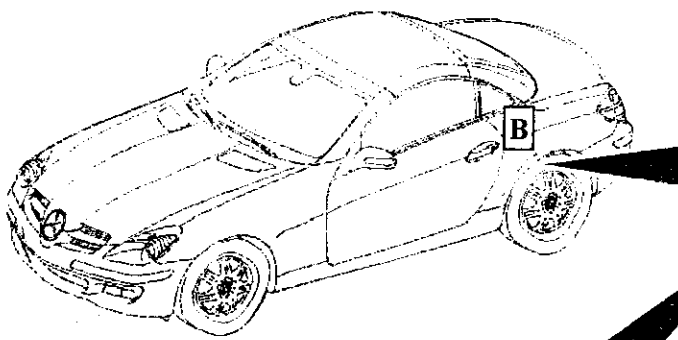

Figure 1
2. Thoroughly apply preservation agent to area B (figure 1).